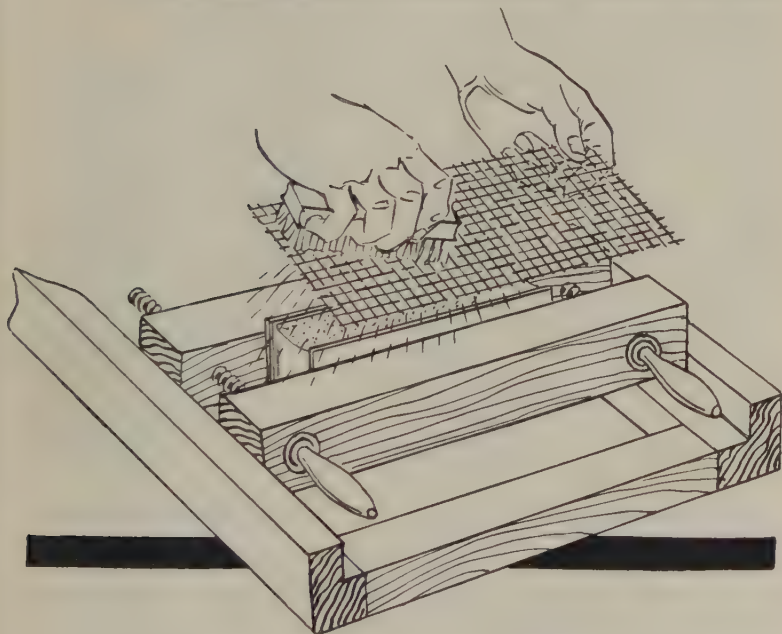

FIG. 268—SPRINKLING BOOK EDGES
36. Mix a small quantity of dry pulp (or jelly pulp) with warm water until it has the consistency of thick cream; dip your scrub-brush into color (which you have mixed on a cardboard or metal slab), take the piece of coarse-mesh screen in your left hand, the brush in your right; hold screen horizontally over book edges and rub the brush containing color briskly over the wire screen. (See Fig. 268.)